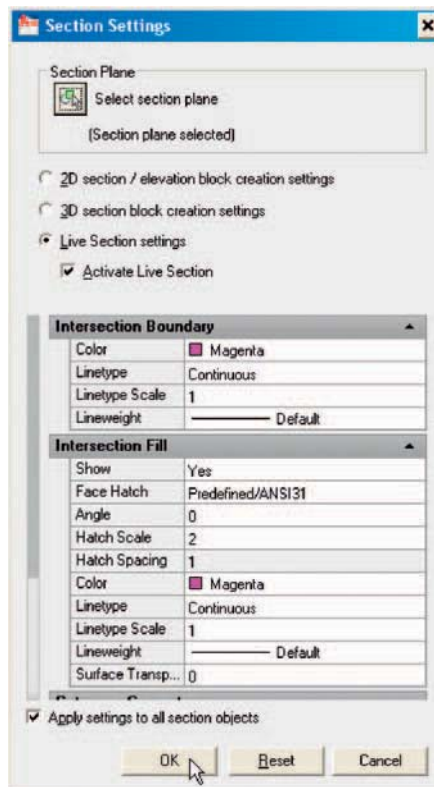

Fig. 14.29 The **Section Settings** dialog
6. At the command line enter **sectionplanesettings**. The **Section Settings** dialog appears. Click the **Select Section Plane** icon in the dialog. The dialog disappears. Click the section plane. The dialog reappears (Fig. 14.29).